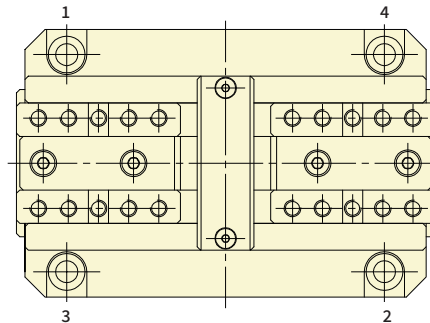

Fig.1
- Tighten the installation bolt of procedure(Fig.1) : 1-2-3-4, the tightening strength unequally may cause the body to deformed, as well caused seize phenomenon for the master jaw.